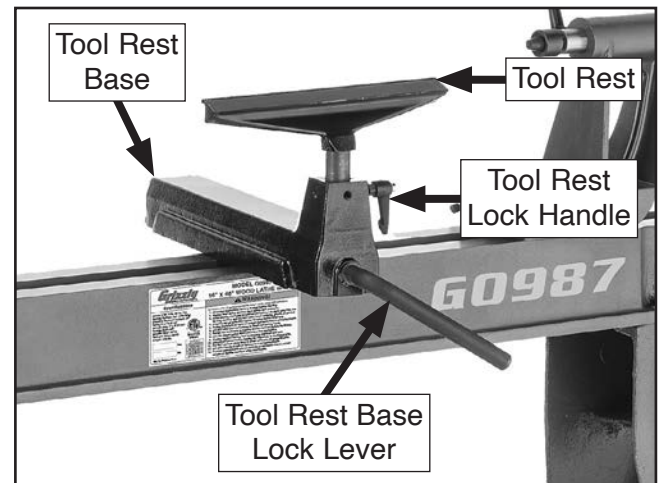

Figure 18. Tool rest controls.
1. Loosen tool rest base lock lever and move tool rest assembly to desired position on bed (see **Figure 18**).
1. Loosen tool rest lock handle (see **Figure 18** on **Page 23**).